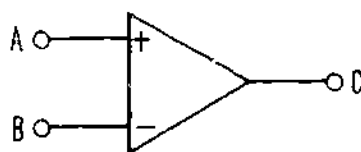

Figure 2
2. Identify the terminals on the IC schematic symbol shown in Figure 2.